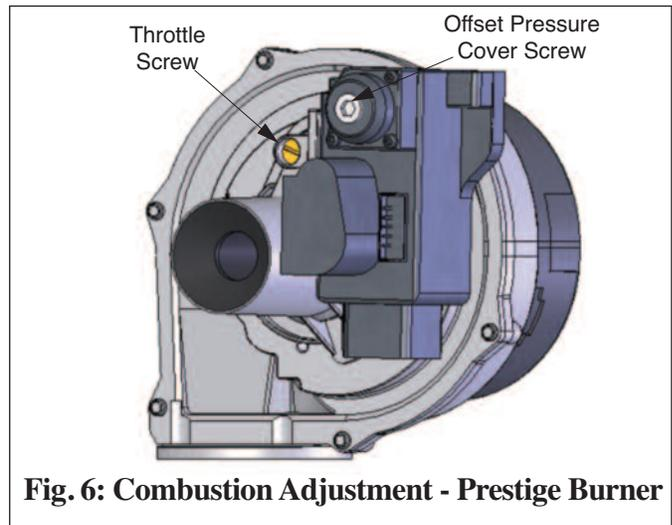

Fig. 6: Combustion Adjustment - Prestige Burner
2. If the combustion levels during high fire are outside the recommended combustion settings adjust the THROTTLE SCREW (see Fig. 6) as follows:
4. If the CO₂ combustion level at low fire is not within +/- 0.2 of the combustion level measured at high fire, remove the offset cover screw and adjust the plastic **OFFSET SCREW** using a T-40 Torx wrench (see Fig. 6) as follows:
8. If the CO₂ combustion level at low fire is not within +/-0.2 of the combustion level measured at high fire, remove the offset cover screw and adjust the plastic OFFSET SCREW (see Fig. 6) using a T-40 Torx wrench as follows:
6. If the combustion levels during high fire are outside the recommended combustion settings adjust the THROTTLE SCREW (see Fig. 6) as follows: